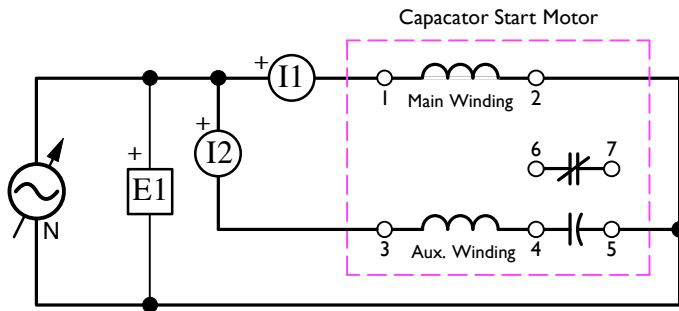

Figure 4.18: Capacitor Start Motor – Main and Auxiliary Windings, and Capacitor
- 50. **Turn off the power** and turn the voltage control knob fully counterclockwise. Modify the capacitor-start motor circuit by connecting the capacitor on the Capacitor-Start Motor module in series with the auxiliary winding as shown in Figure 4.18.